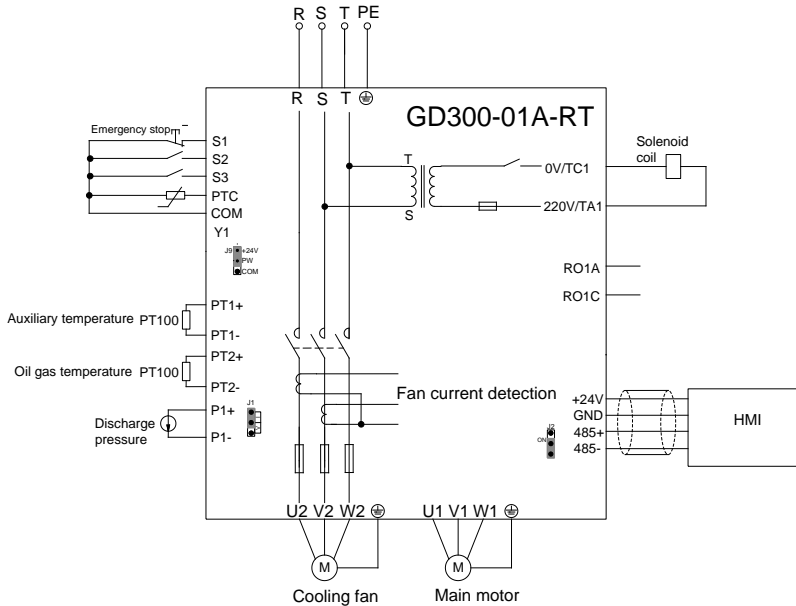

Figure 4-1 Wiring diagram for HMI + GD300-01A-RT VFD
1. Perform wiring according to Figure 4-1 and ensure that the VFD for air compressor and the housing of the air compressor are grounded properly.